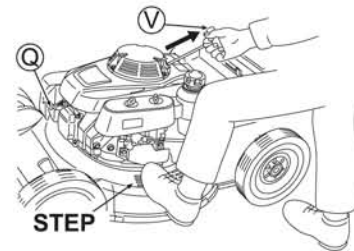

Fig. 13
1. Install Plug cap (Q). (See Fig. 13)
4. To start the engine, step one foot on the step of the housing, lightly pull Starter knob (V) and temporarily stop at a position where you feel heavy to pull the knob, and then powerfully pull it from that position. After that, return Starter knob (V) slowly. (See Fig. 13)